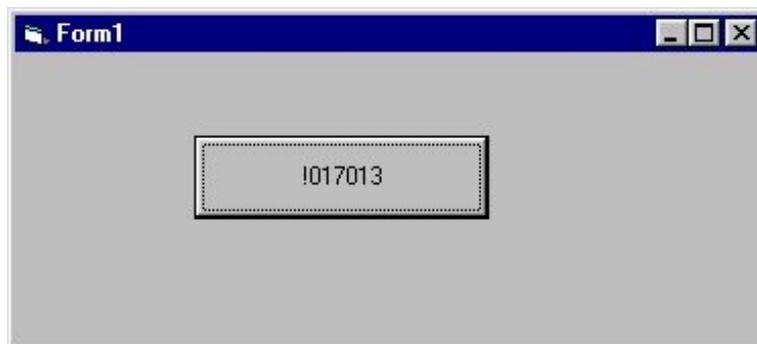

Figure 3-1-9. The module returns “!01xxxx”.
- Run the program and click on the “**Command1**” button. The caption of the “**Command1**” button will be changed to “!01xxxx”. The “!” is “OK”. The “01” means “address at 0x01”. The “xxxx” is the module-ID. Refer to Figure 3-1-9.